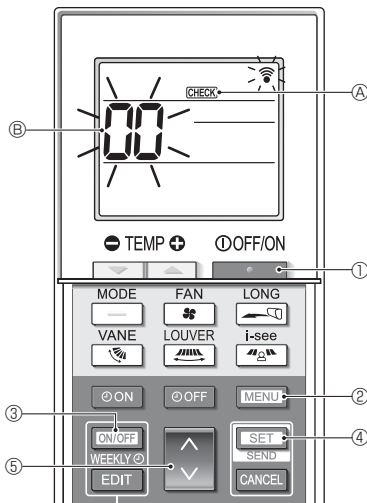

Fig. 6-2
6.2. Self-check (Fig. 6-2)
- Press the **STOP** button ① to stop the air conditioner.
- If the weekly timer is enabled (**WEEKLY** is on), press the **ON/OFF WEEKLY** button ③ to disable it (**WEEKLY** is off).
- Press the **MENU** button ② for 5 seconds.
- Press the **UP** button ⑤ to select the refrigerant address (M-NET address) ⑥ of the indoor unit for which you want to perform the self-check.
- Press the **SET** button ④.
- Press the **STOP** button ①.